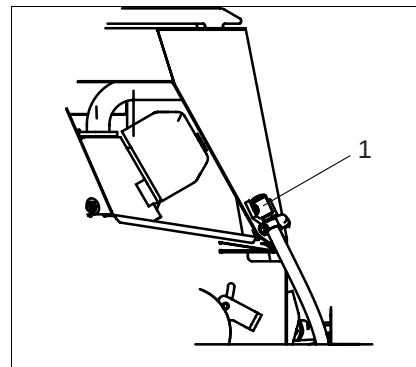

Fig. 21 Engine oil changing
- Remove drain hose (Fig. 21/1) from holding clamp and lead it downwards through the vehicle frame.
- Close drain hose (Fig. 21/1) by plug and protect with clamp.
- Fasten drain hose (Fig. 21/1) at holding clamp.